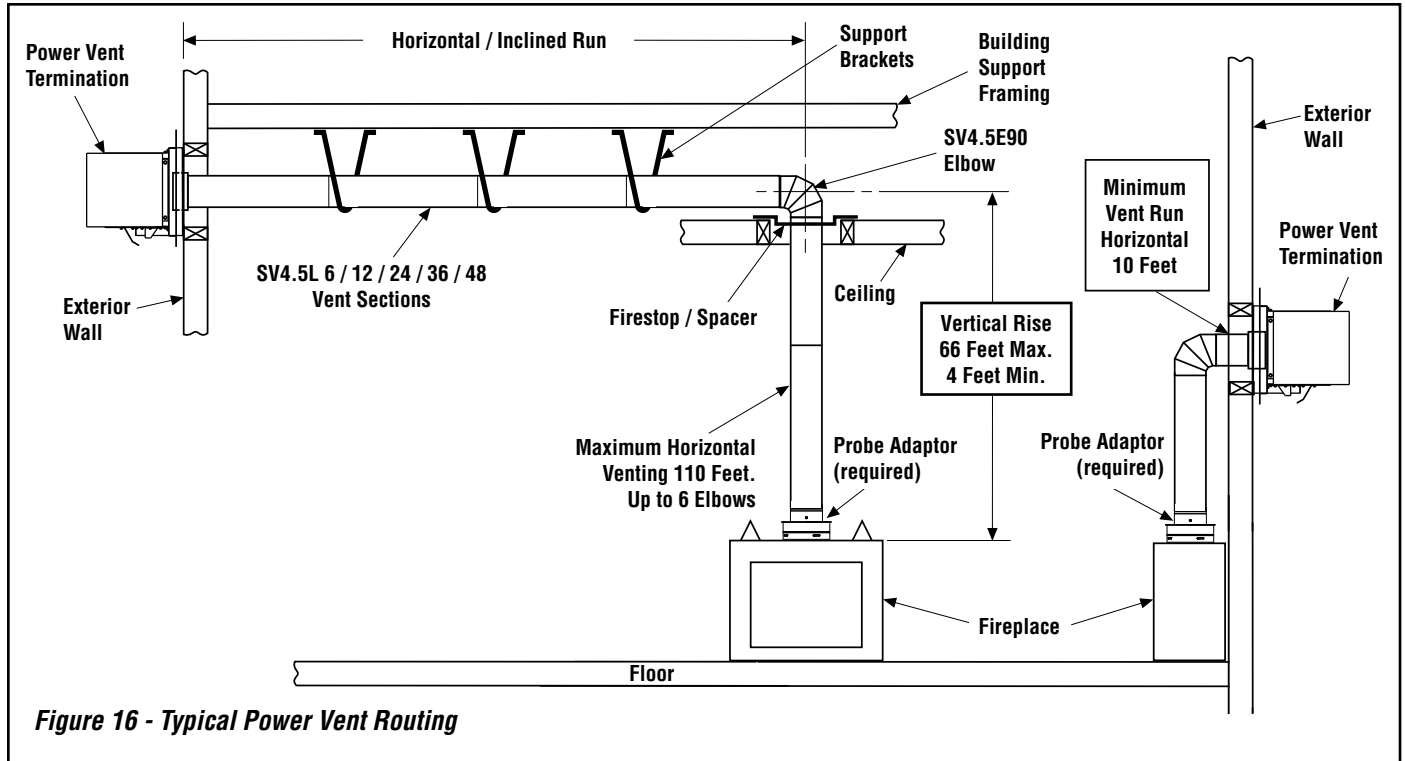

Figure 16 - Typical Power Vent Routing
C. Attach vent components to each other - Other vent sections may be added to the previously installed section in accordance with the requirements shown in *Figures 16 and 17 on Page 15*.
G. Continue installation of horizontal/inclined sections - Continue with the installation of the straight vent sections in horizontal/inclined run as described in **Step C**. Install support straps every 3' (914 mm) along horizontal/inclined vent runs using conventional plumber's tape (*see Page 15, Figure 16*). **It is very important that the horizontal/inclined run be maintained in a straight (no dips), slightly elevated plane. The recommended incline is approximately 1/4" per foot (20 mm per meter) horizontal, in a direction away from the fireplace.** The rise per foot run ratios that are smaller are acceptable all the way down to at or near level. Use a carpenter's level to measure from a constant surface and adjust the support straps as necessary.
See **Figures 16 and 17 on Page 15** illustrating the various horizontal venting configurations that are possible for use with these appliances. The table in **Figure 17 on Page 15** shows each system's minimum and maximum vertical and horizontal length values that can be used to design and install the vent components in a variety of applications.
See **Figure 16 on Page 15**. **It is very important that the horizontal/inclined run be maintained in a straight (no dips), slightly elevated plane. The recommended incline is approximately 1/4" per foot (20 mm per meter) horizontal, in a direction away from the fireplace.** The rise per foot run ratios that are smaller are acceptable all the way down to at or near level. Use a carpenter's level to measure from a constant surface and adjust the support straps as necessary.